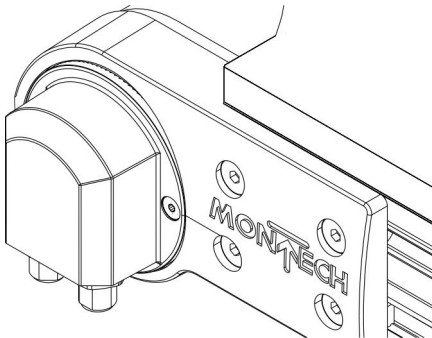

Fig. 31: Cable outlet 270°
2. ➤ Turn the cover cap of the cable outlet until the desired cable outlet position of 270° (Fig. 31) is set.